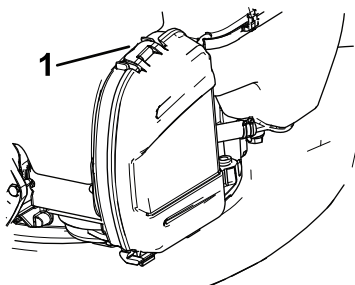

Figure 18
2. Press down on the latch tab on top of the air-cleaner cover (Figure 18).